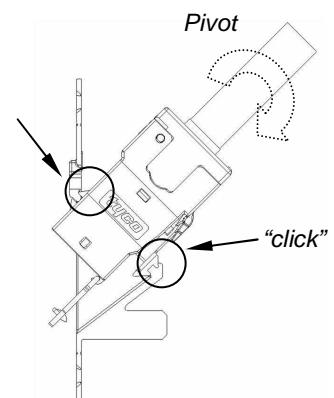

Fig. 4
4.3 Pivot the connector while pushing it towards the top to allow the bottom latch to enter into the bottom rib of the mounting frame (fig. 4).